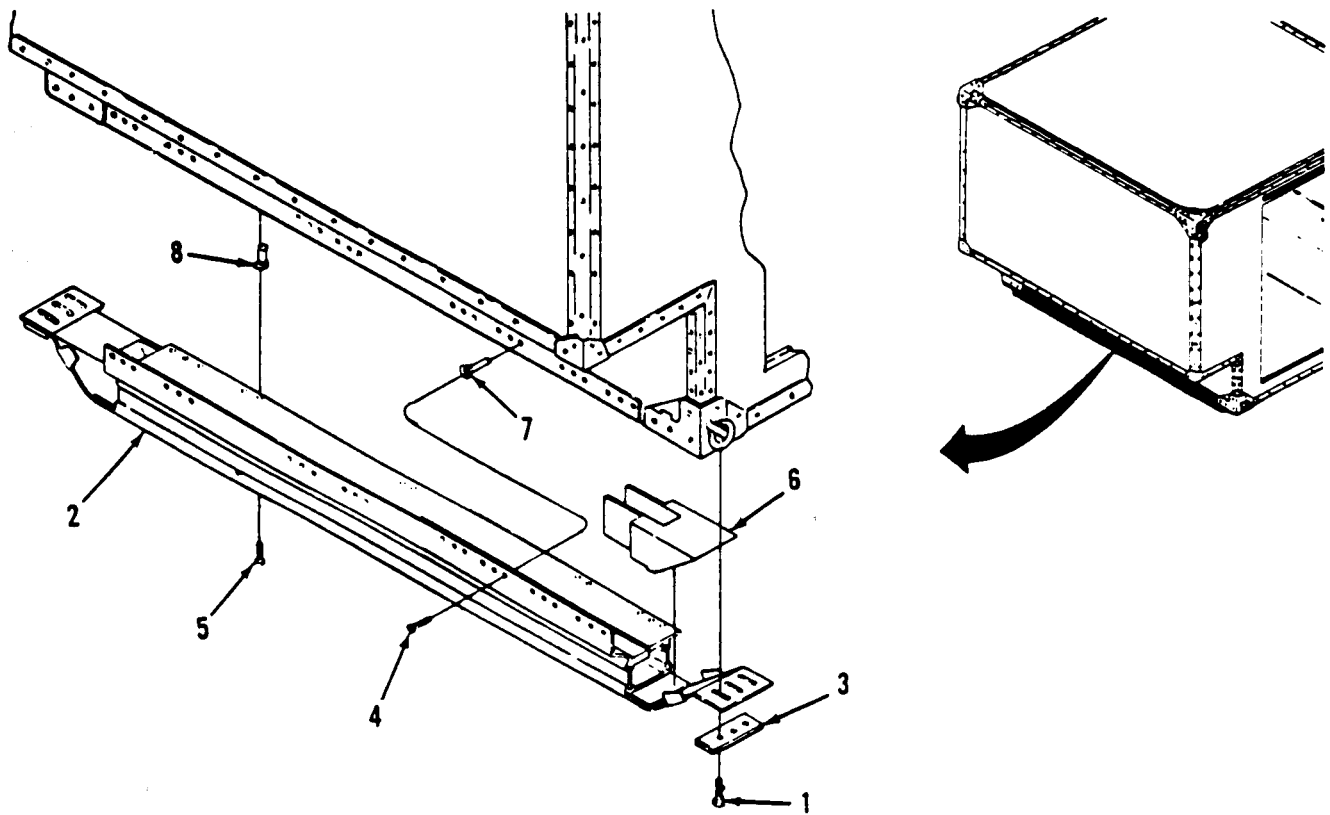
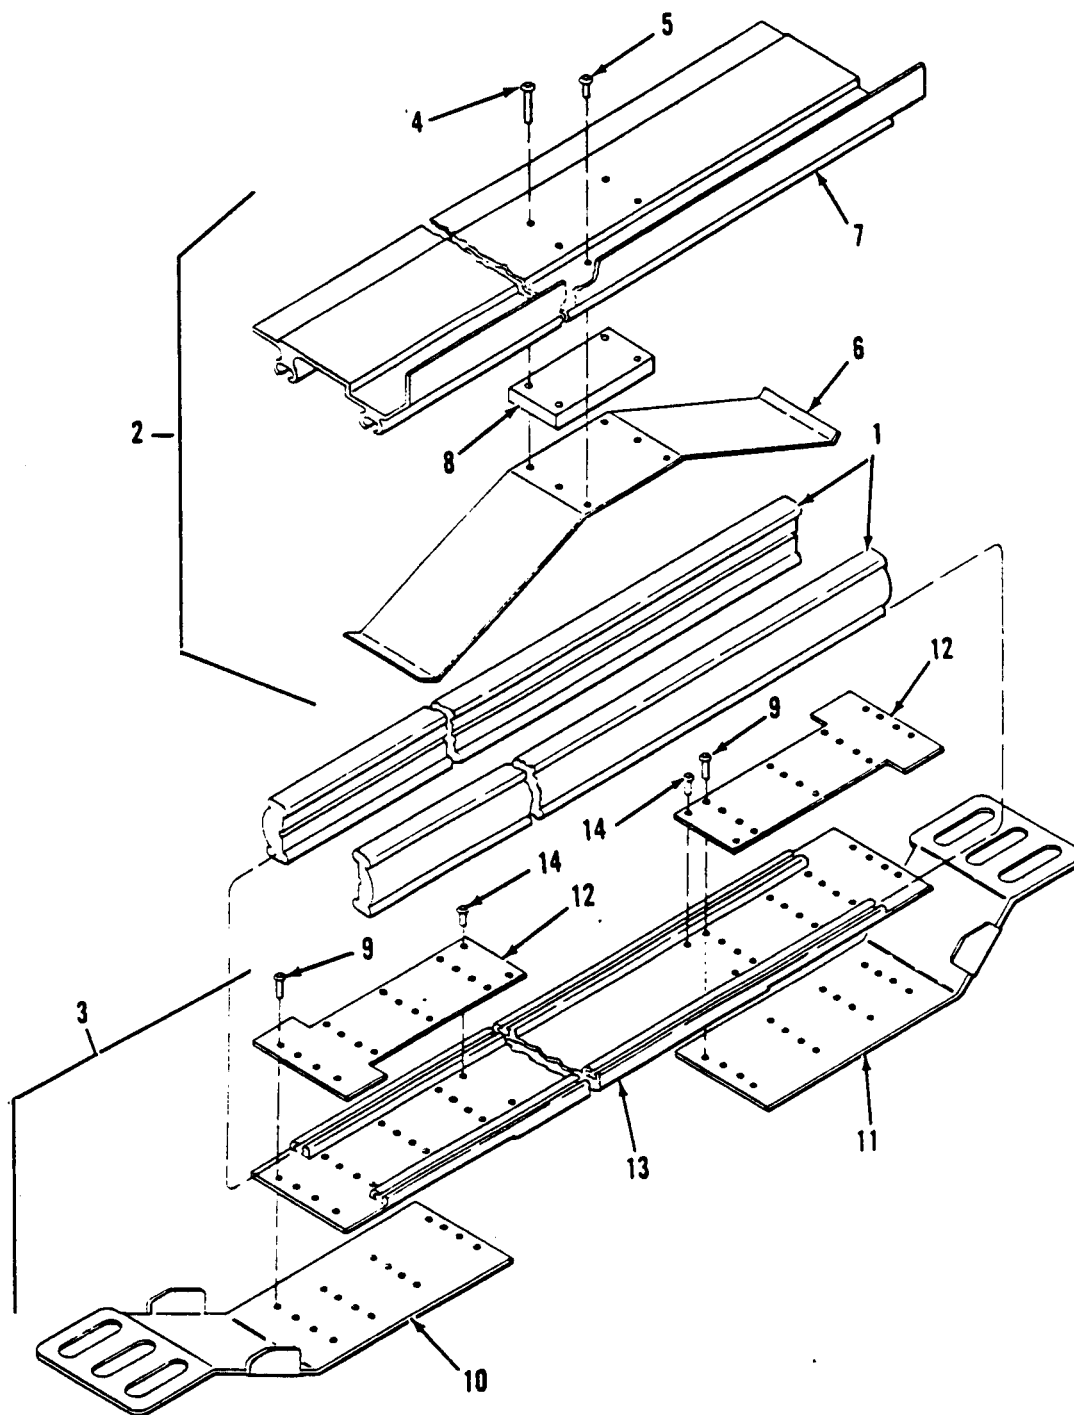

Figure 3-35. Skid Assembly Replacement.
Figure 3-36. Skid Assembly Repair.
- (1) Inspect for secure mounting and dents.
- (2) Inspect for damage to skirts (1, Figure 3-36).
*b. Remove. (Figure 3-35)*
- (1) Remove and retain three hex-head bolts (1) attaching each end of skid assembly (2) to underside of towing brackets, and remove plates (3).
- (2) Remove and retain 24 phillips head screws (4) attaching skid (2) to side panel of shelter.
- (3) Remove and retain 1x2 phillips head screws (5) attaching skid to underside of shelter floor panel, and remove skid (2) and two rubber blocks (6).
- (4) Inspect condition of rivnuts (7 and 8) and replace if necessary (paragraph 3-9.b).
c. *Disassemble.* (Figure 3-36)
- (1) Pull skirt (1) out of mounting grooves of upper plate assembly (2) and nose plate assembly (3).
- (2) Drill out four rivets (4) and two rivets (5) attaching spring (6) to skid plate (7), and remove spring (6) and spacer (8).
- (3) Drill out 16 rivets (9) attaching each noseplate (10 and 11) to plate (12) and shoe (13).
- (4) Drill out two rivets (14) attaching each plate (12) to shoe (13) and remove plates (12) from shoe (13).
e. *Assemble.* (Figure 3-36)
- (1) Position each plate (12) in place on shoe (13) and secure with two rivets (14). (Refer to paragraph 3-9.a for rivet installation instructions.)
- (2) Position each noseplate (10 and 11) in place over each plate (12) and secure to plate (12) and shoe (13) with 16 rivets (9).
- (3) Place spring (6) under skid plate (7) and secure with four rivets (4) and two rivets (5).
- (4) Push each skirt (1) in mounting grooves noseplate assembly (3). Align grooves of upper plate assembly (2) with top flange of skirts (1) and push in place.
d. Install. (Figure 3-35)